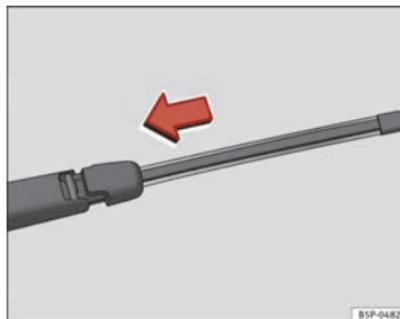

Fig. 132 Fitting the rear window wiper blade ▶
- Place the blade as shown in the ⇒ fig. 132 and slide the adapter along until it engages.